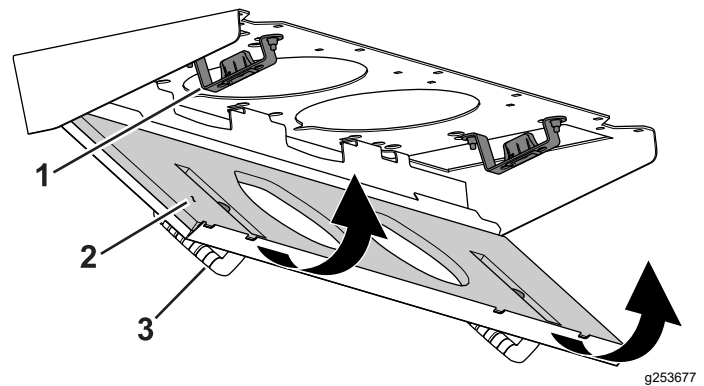

Figure 119
4. Rotate the filter screen around the tabs until the latch locks into the latch-mount assembly (Figure 119).